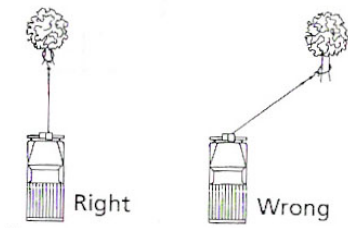

Fig 3.2
**!WARNING** do not use the winch at an acute angle, as this stacks the rope on one side of the drum, which could damage the rope and winch. This is shown in figure 3.2